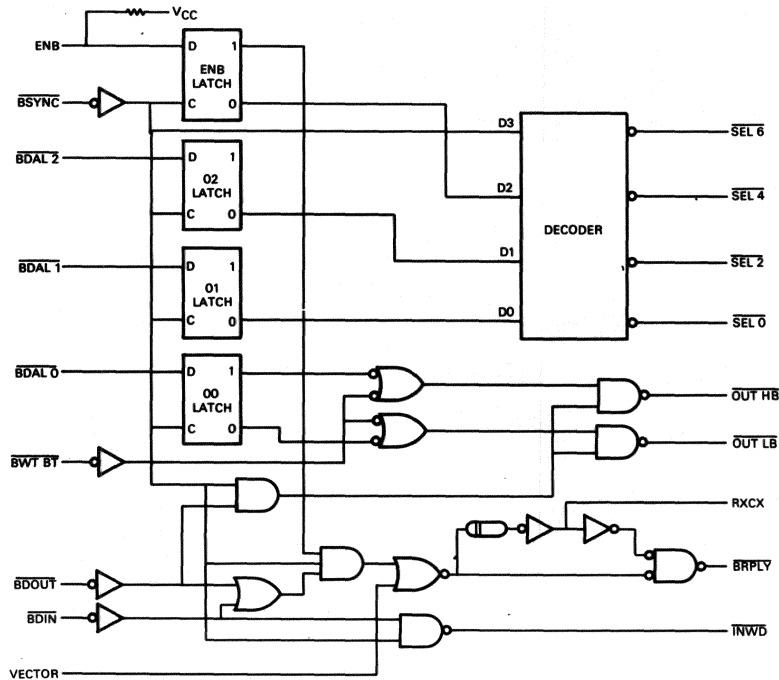

Figure 1 • DC004 Simplified Logic Diagram
The DC004 register selector, contained in a 20-pin dual-inline package (DIP), provides the signals to control the transfer of data to and from as many as four word registers (8-bytes). The Q-bus signals directly connect to high-impedance receivers and to high-current drivers on the DC004. A resistor and capacitor circuit (RC) is included to delay the response of the peripheral interface to the data transfers. An external RC network can be added to vary the delay time to conform to the device requirements. Figure 1 is a simplified logic diagram of the DC004 which includes bus latching circuits, enable logic, and a decoder used to select the registers.